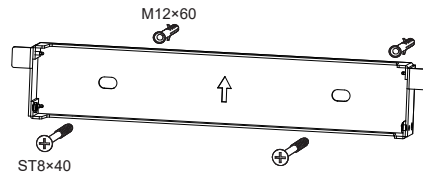

Fig. 2.2 Wall mounted inverter
- Select the mounting height of the support and mark the mounting holes according to Figure 2.2. For brick walls, the holes must be drilled to fit the expansion bolts.